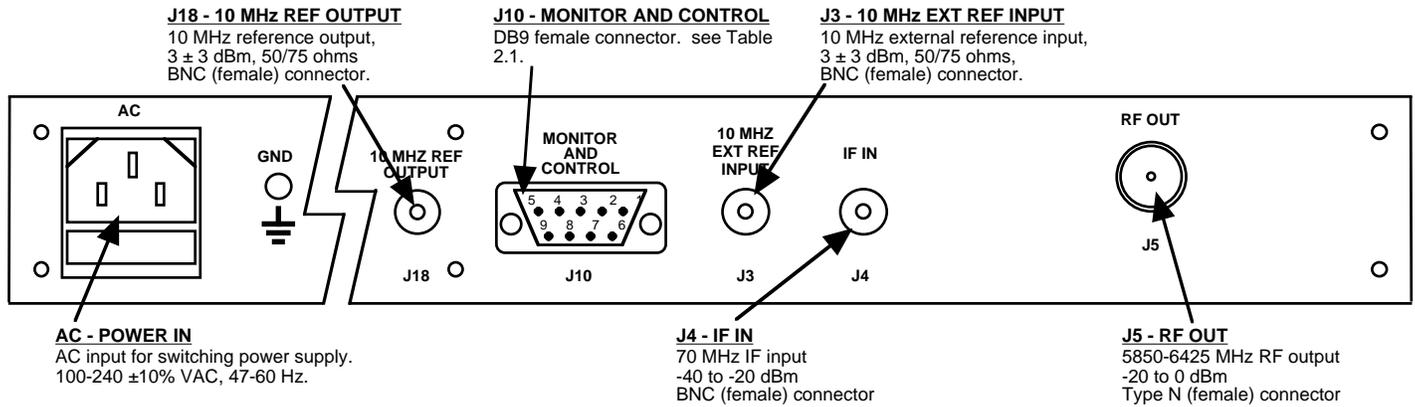

FIGURE 2.2 2015-61 Rear Panel Inputs and Outputs
2.2 Rear Panel Input / Output Signals - Figure 2.2 shows the input and output connectors on the rear panel.
1. Connect a -40 dBm to -20 dBm, 70MHz signal to IF IN, J4 (Figure 2.2)
Alarm indications appear on the LEDs (see figure 2.2).